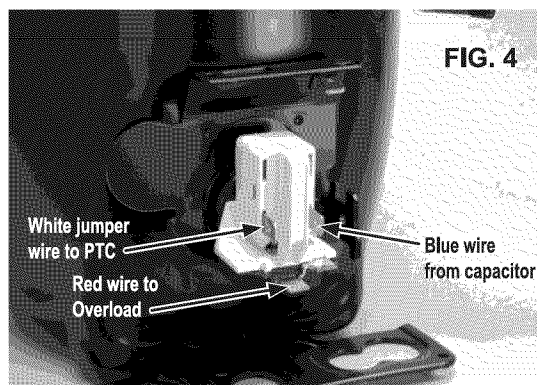

FIG. 4
8. Install the new PTC relay. Make sure the start device and overload are securely mounted all the way on the compressor terminals. (See Figure 4)
- Blue to the capacitor, if your model uses a capacitor. If your model does not have a capacitor, use the terminal cover provided in the kit to cover the extra terminal. (See Figures 4 & 5)